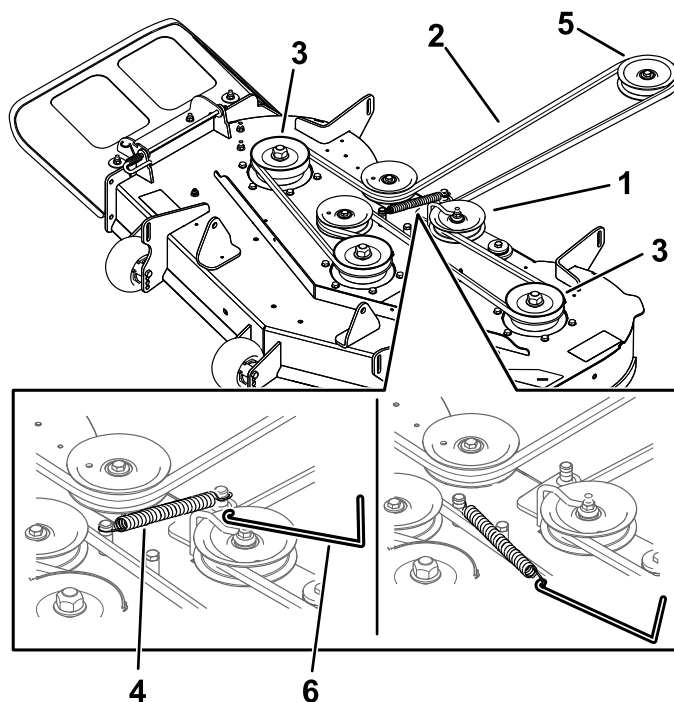

Figure 50
6. Using a spring-removal tool (Toro Part No. 92-5771), remove the idler spring from the deck hook to remove tension on the idler pulley and roll the belt off the pulleys (Figure 50).
7. Route the new belt around the engine pulley and mower pulleys (Figure 50).
8. Using a spring-removal tool (Toro Part No. 92-5771), install the idler spring over the deck hook and place tension on the idler pulley and the mower belt (Figure 50).